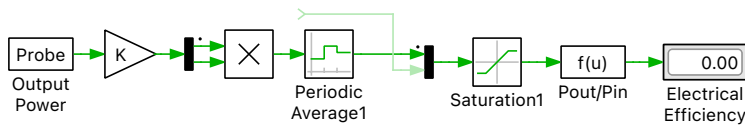

Figure 5: Calculating the electrical efficiency using the input power and output power
- Place an additional Probe, Periodic Average, and Multiplexer block into the schematic near the Switch Loss Calculator block. Probe the voltage across the diode and the current through the inductor. Note that the voltage across the diode will be negative, therefore, add a gain with the value $[-1, 1]$. Multiply both signals and average the results with 0.05 ms. Using the Multiplexer, combine the source power and output power measurement into a single bus with a width of 2 signals, as shown in Figure 5. As an optional step, add a Saturation block with a **Lower limit** of 1 and an **Upper limit** of inf , which ensures that there are no “Division by zero” issues at the beginning of the simulation.